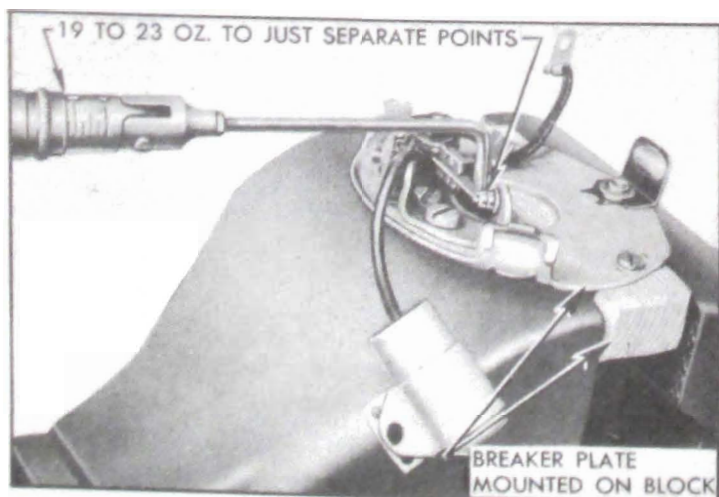

Figure 10-77—Checking Breaker Arm Spring Tension
5. Compress breaker arm spring and bring the points together, then install contact support and breaker arm on a new breaker plate and install support lock screw. NOTE: A new breaker plate may be attached to a block of wood to make a fixture which can be held in a vise. See figure 10-77.
7. Attach hook of spring scale to breaker arm at side of contact point and check the tension required to just separate the points, with pull exerted at an angle of  $90^\circ$  with the point surface. See figure 10-77. Tension must be 19 to 23 ounces.